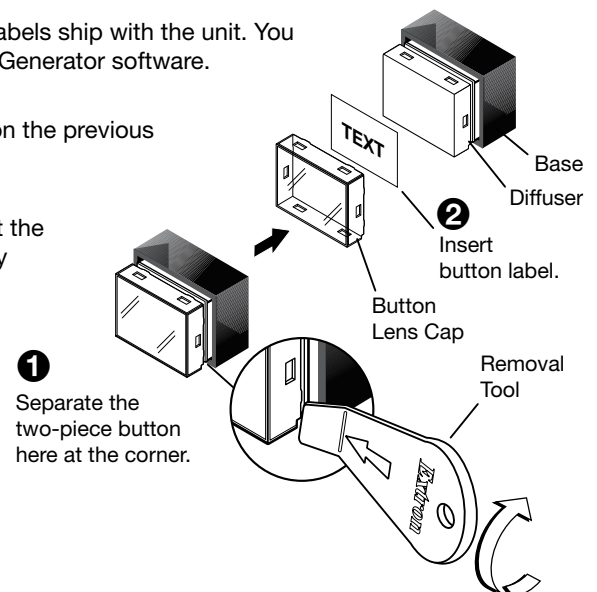

Figure 8. Replacing Buttons on the EBP 104 EU and EBP 104 MK
3. Gently separate the button lens button cap from its white diffuser: insert the end of the provided Extron removal tool into the corner notch and gently twist the tool (see figure 8, ❶).